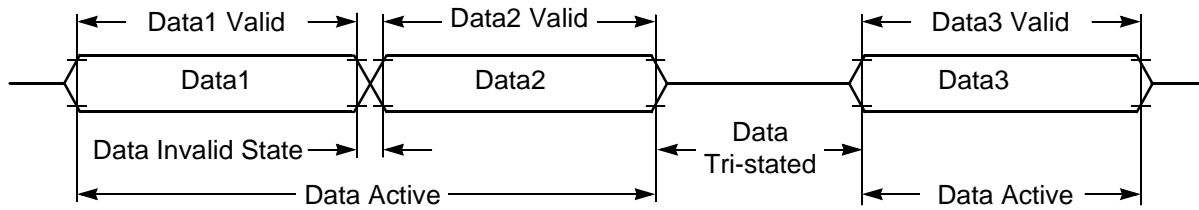

Figure 7. Signal States
**Figure 7** shows the definitions of the following signal states: